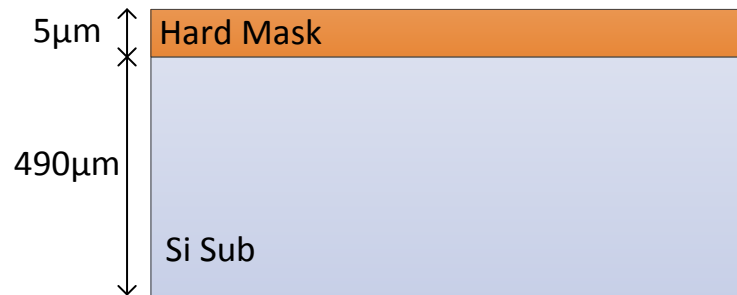
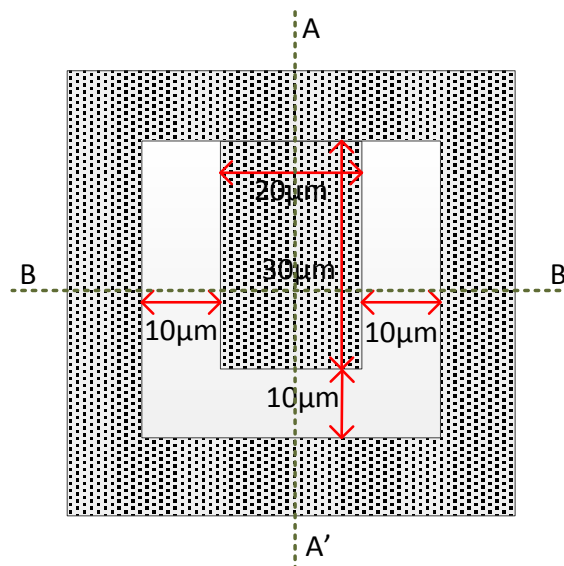

Figure PS2.3-1
Figure PS2.3-2
3. This problem explores the anisotropic wet etching of silicon to create suspended structures that can be used for example in gas flow meter sensors. You are given a (100) silicon wafer with the hard mask layer deposited on it (c.f., Figure PS2.3-1) patterned with the layout given in Figure PS2.3-2. The etchant you use is 20% KOH solution at 80°C, which has an etch rate of 1.4µm/min in (100) direction.
- (a) Draw the cross-section of the structure along A-A' and B-B' after 2 and 8 min. Assume the pattern is perfectly aligned with the wafer major flat, i.e., the (110) direction.
- (c) Redraw the cross-sections and give all dimensions when the mask layout is 10° misaligned to the (110) plane.